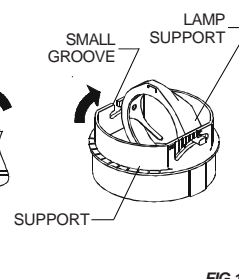
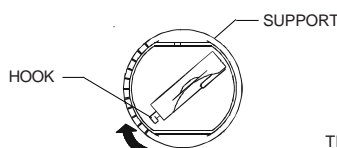

FIG.15
FIG.16
4. Lift lamp support vertically (Fig.15), rotate horizontally to release trim hook. (Fig.16)